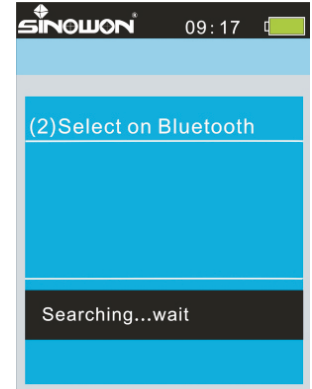
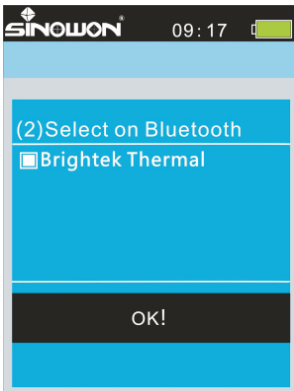

Fig 6-5-18
Fig 6-5-19
- **Select on Bluetooth**——Press [ETR] to select device, see fig6-5-18; after a few seconds show connected, then display shows OK, means connected well, see Fig6-5-19.